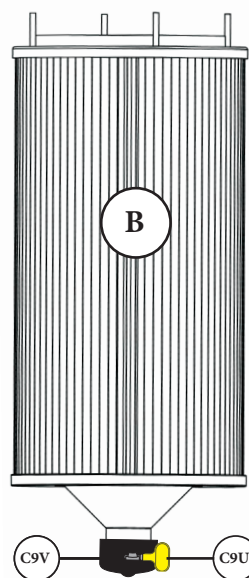

FIG. 12
- 12** Place Filter Cap (C9V) onto the bottom port of the Filter (B) and secure in place using Band Clamp (C9U) [FIG. 12].